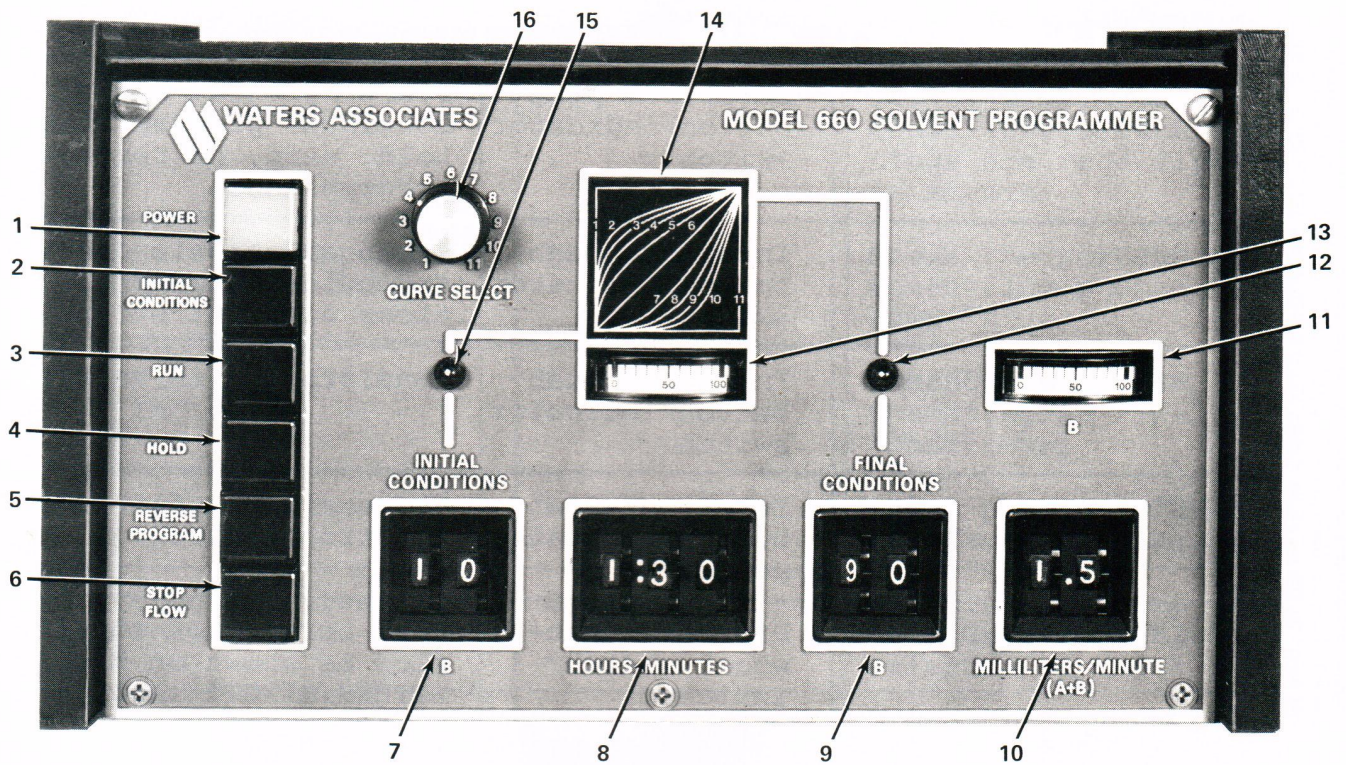

Figure 3-1. M660 Controls and Indicators
Figure 3-1 illustrates the controls and indicators for the M660 and Table 3-1 outlines their functions.
4. The total time for the run will be the time set by the HOURS:MINUTES thumbwheel switch (Figure 3-1, Item 8) plus the time the HOLD function is actuated.
5. The total time for the run will be the time set by the HOURS:MINUTES thumbwheel switch (Figure 3-1, Item 8) plus the time the STOP FLOW function is activated.
- a. Set M660 POWER pushbutton/indicator (Figure 3-1, Item 1) to 'OFF' (out) position.
- e. Depress the M660 INITIAL CONDITIONS pushbutton/indicator switch (Figure 3-1, Item 2).
- f. Depress the M660 POWER pushbutton/indicator switch (Figure 3-1, Item 1).
- e. Set M660 INITIAL CONDITIONS thumbwheel switch (Figure 3-1, Item 7) to desired value.
- f. Set M660 FINAL CONDITIONS thumbwheel switch (Figure 3-1, Item 9) to desired value.
- g. Set the CURVE SELECT switch (Figure 3-1, Item 16) to desired curve.
- h. Set M660 HOURS:MINUTES thumbwheel switch (Figure 3-1, Item 8) to desired value.
- i. Set MILLILITERS/MINUTE thumbwheel switch (Figure 3-1, Item 10) to desired value.
- j. Depress INITIAL CONDITIONS pushbutton/indicator (Figure 3-1, Item 2).
- k. Depress the M660 POWER pushbutton/indicator (Figure 3-1, Item 1) to 'ON' (down) position.
- l. Depress RUN pushbutton/indicator (Figure 3-1, Item 3); program will start.
- m. The FINAL CONDITIONS (Figure 3-1, Item 12) indicator will light at the end of the program.